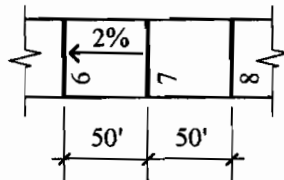

Figure 3-10. Precision Surface
- **Precision Surface** — Any surface where the placement of contours must be exactly correct. Figure 3-10 shows contour lines spaced exactly 50-feet apart which indicates a grade of exactly 2%. Any time the problem statement specifies a specific grade, consider it to be a precision surface. Count on being tested on your ability to place contours precisely on a plane surface.